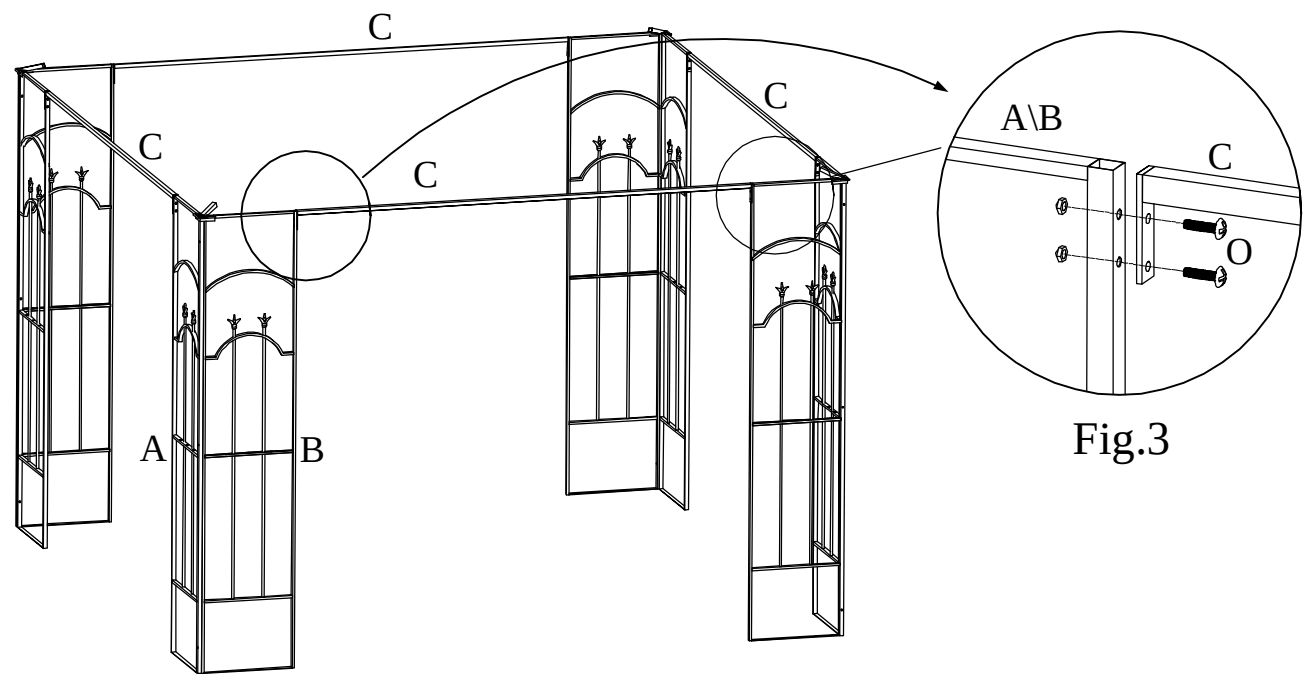

Fig.3
Step 3: Line up the bolt holes on the two ends of the Beam (C) with the corresponding bolt holes on the side tubes of Panel (A) and Panel (B). Screw assembled panels by using M6X28 Bolts & Nuts (O). Repeat for the remaining Beams (C), Panels (A) and Panels (B) 3 times. See Figure 3.